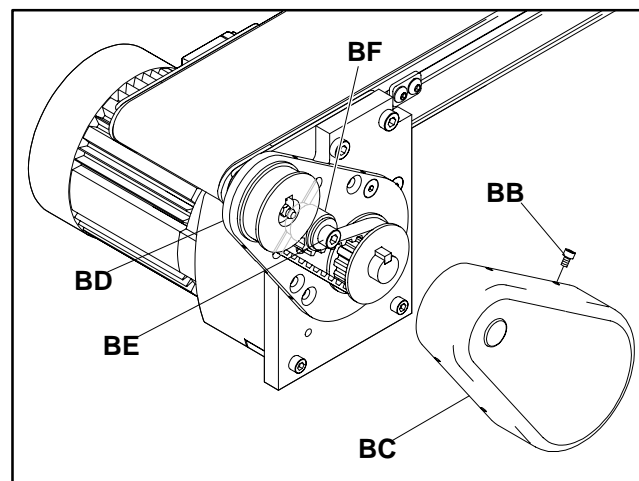

Figure 33
6. Disconnect power. Then, remove the screws (BB of Figure 33) securing the belt guard (BC). Then, remove the belt guard.
8. Loosen the cap screw (BE) which secures the tensioning bearing assembly (BF).
9. Slide the tensioning bearing assembly (BF) against the timing belt (BG), until the deflection of the belt at the midpoint of the section of belt (BH) (opposite the tensioning bearing assembly) is 1/8" (3 mm) for a 1 lb (0.5 kg) force applied at that point. For optimum performance, the timing belt should be tensioned so as to prevent jumping of teeth under the most severe conditions which the drive will encounter.
10. Tighten the tensioning bearing assembly cap screw (BE of Figure 33) with 18 ft-lb (24 Nm) of torque.
11. Re-assemble the belt guard (BC) and belt guard screws (BB) to the back guard plate (BD).